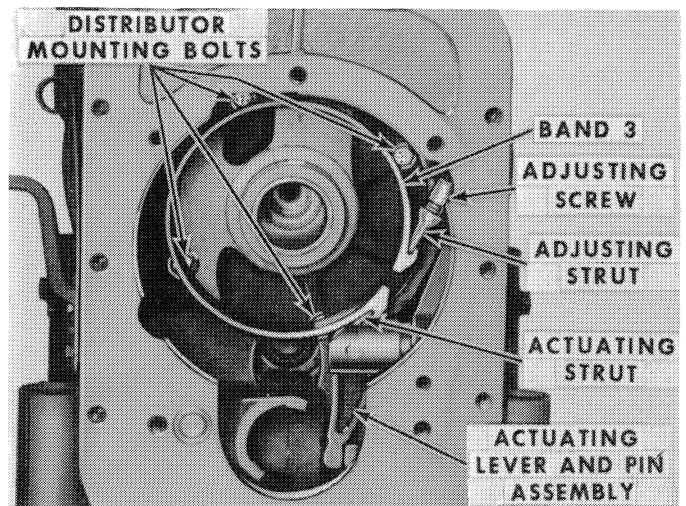
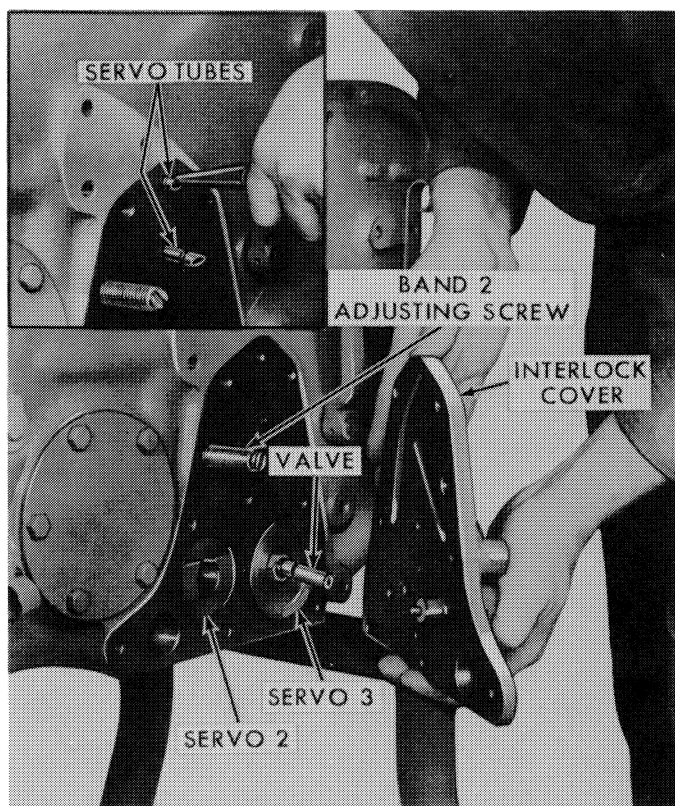

Figure 47
Figure 49
3. Loosen band 2 and 3 adjusting screws to relieve the tension from the servos, and remove servo 2 and 3 cover assembly. See Figure 49.
6. Mark the end of servo 2 and the transmission case and rotate the servo 180° to free the servo piston rod from the lever and pin assembly. See Figure 49.
2. Pull servo 3 far enough out of the case to replace the “O” ring. See Figure 49.
10. Remove No. 2 band adjusting screw lock nut and washer and loosen the adjusting screw. Remove the eight servo 2 and 3 cover attaching bolts and remove the cover and gasket, shown in Figure 49.
11. Loosen the four distributor mounting bolts, shown in Figure 47, and remove the two servo tubes from the distributor (but not from the transmission case), by twisting and pulling at the same time, as shown in the Insert, Figure 49.
20. Install and properly position the band 2 and 3 servo tubes into the distributor. See Insert, Figure 49. If the tubes are not aligned with the distributor, rotate the distributor as required and insert the tubes.
24. Install band 3 adjusting screw and secure band 3 in position with the depression in the band end toward the adjusting screw. Join the band to the screw with the adjusting strut and to the servo lever with the actuating strut. See Figure 47.
25. Install the servo 2 and 3 cover and gasket, making sure the check ball pin for servo 2 is in place in the cover. See Figure 49. Install the strainer and plug assembly. Install and tighten the interlock cover attaching bolts evenly to 35–40 ft. lbs. torque. Install band 3 sealing washer and lock nut.